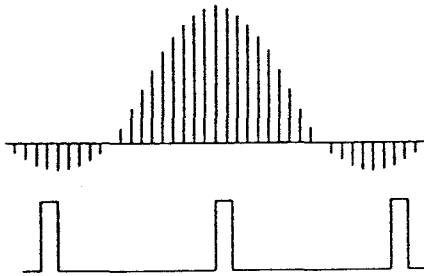

Figure 46. Narrow pulse width causes wide spectrum lobes; long cycle time results in low spectral line density.
The envelope of the pulsed spectrum follows the mathematical form $y = \frac{\sin x}{x}$ and is comprised of a main center lobe and several side lobes, separated by amplitude null points. Spacing between the spectral lines of the lobes is equal to the pulse repetition frequency, and is also equal to $1/CT$ (IE-17A Cycle Time). The frequency spacing between null points of the tone burst is equal to $1/T$, where T is equal to the programmed Pulse Width (PW) of the IE-17A. It follows, therefore, that the narrower the selected pulse width, the wider the sidelobes, and the longer the cycle time, the more closely spaced are the spectral components, as demonstrated in Figures 46 through 49 on the following page.